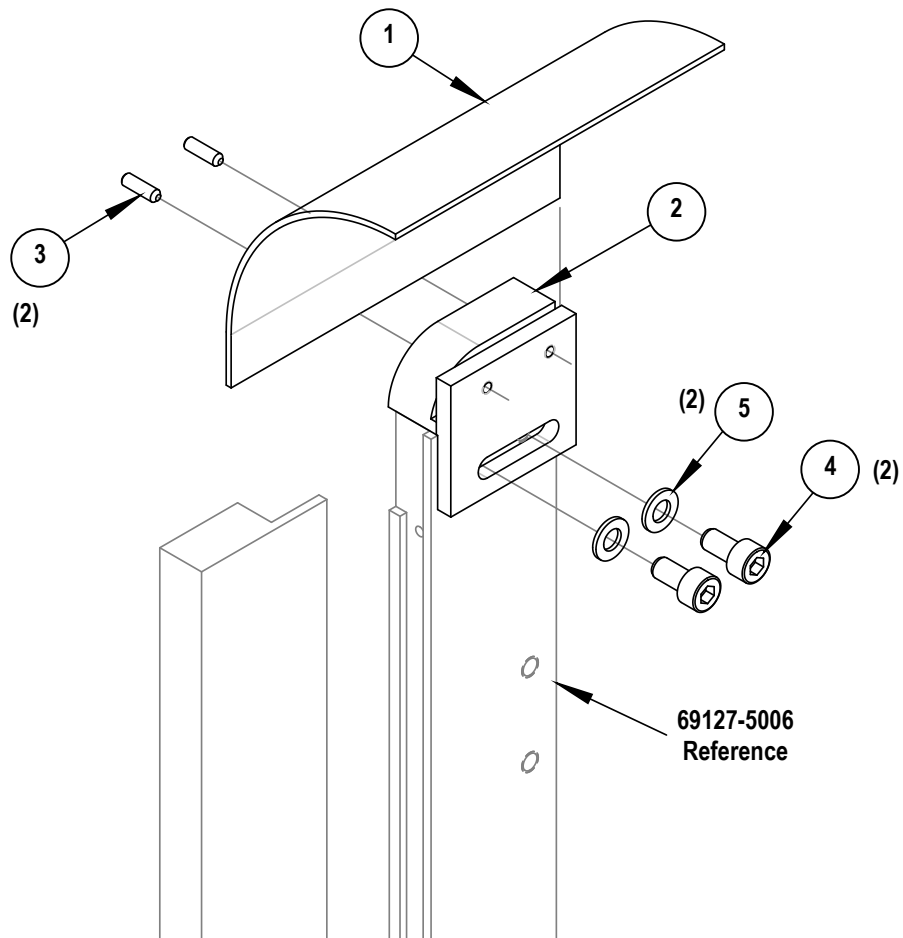

Figure 4-5
**In-Feed Guide Assembly (Figure 4-5)**
69127-5057 In-Feed Guide Assembly (Figure 4-5)